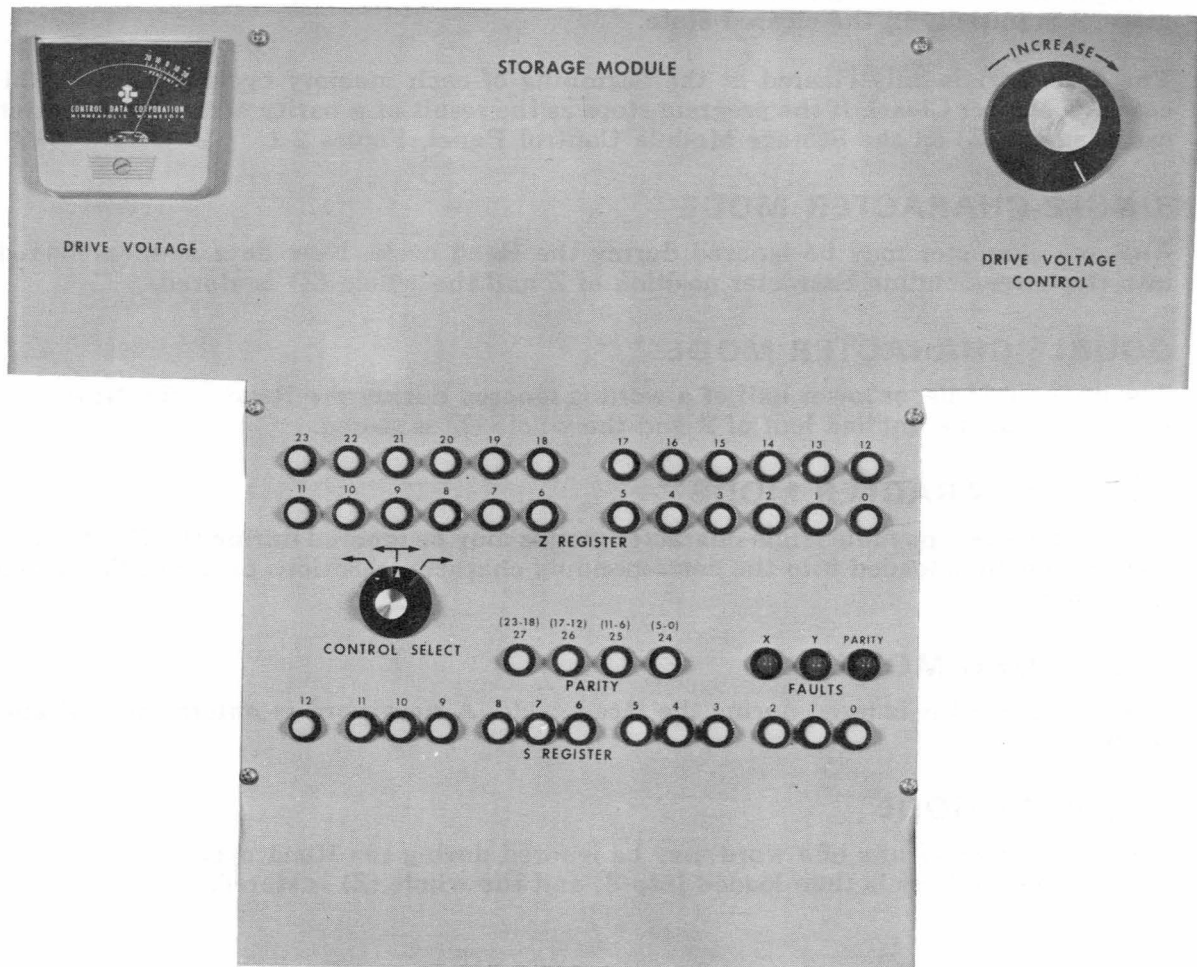

Figure 2-1. Storage Module Control Panel
Figure 2-1 shows the Storage Control Panel which is mounted at the top of each 3109 Storage Module. The Drive Voltage Control is used to adjust the meter reading to zero percent (22.5 volts). The Z and S registers are displayed on this panel, as well as three storage faults. The indicator lamps represent an x or y drive line voltage failure and a storage parity fault. The Control Panel on the 3103 Module is similar to the 3109 Control Panel but is laid out on a vertical plane.
The Z register is only cleared at the beginning of each memory cycle (except in the case of a Master Clear). If the program stops as the result of a parity error, the operator can examine (Z) on the Storage Module Control Panel, Figure 2-1.